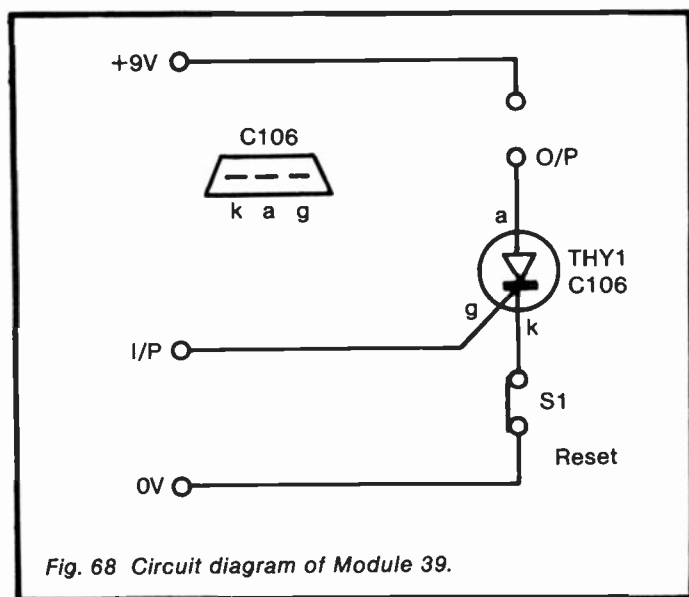

Fig. 68 Circuit diagram of Module 39.
*Circuit diagram:* see Figure 68.